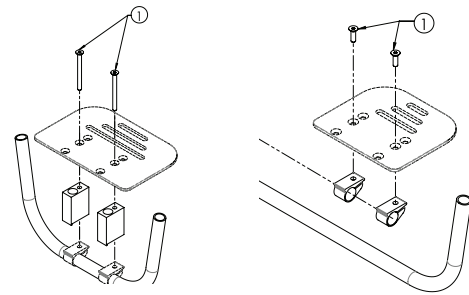

Fig. 19d
- Loosen screws (1) (Fig. 19d).
- Tighten screws (1) firmly